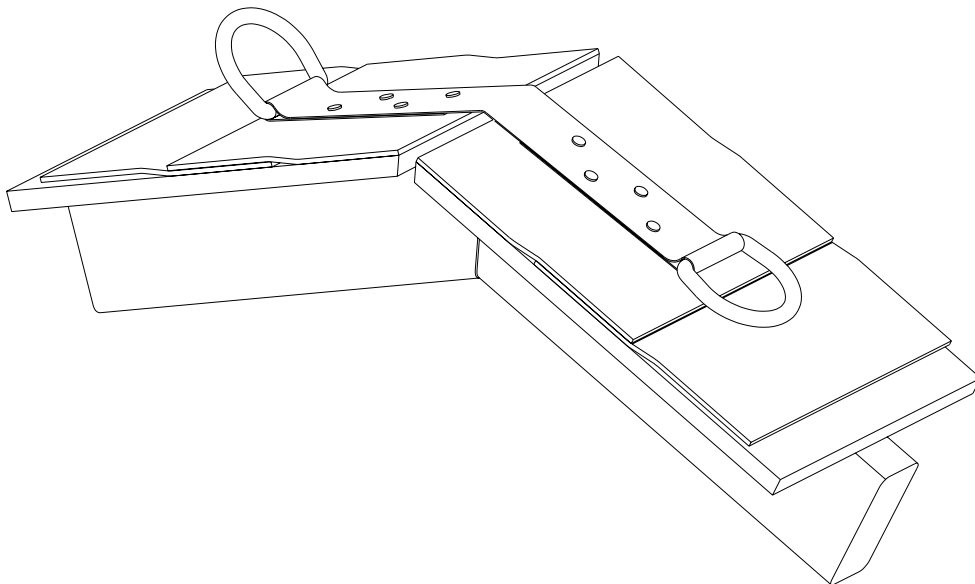

Fig. 4
A. Installation Requirements for Miller Model# RA40 Ref. Fig. 4